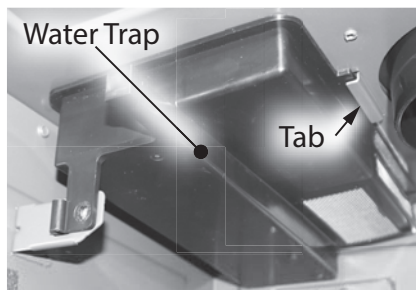

Figure 174 - Tab location
**9** Install the air intake water trap in the water heater. Make sure the tab on the right side of the air intake water trap fully engages with the channel in the water heater. See Figure 174. Secure with the screw removed in **Step 5**.
NOTICE: The heat exchanger is not shown in Figure 174 for clarity.